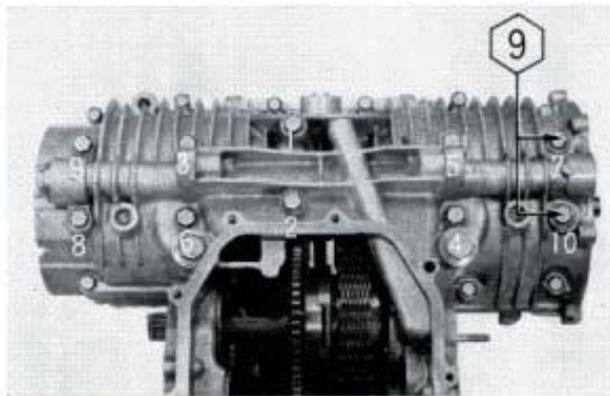

Fig. 151 8 mm mounting bolts
8. Unscrew ten 8 mm bolts and twelve 6 mm bolts from the lower crankcase. Loosen the 8 mm bolts in the reverse order shown in Fig. 151.
3. Measure the crankshaft journal wear. Cut a length of plasti gauge to the width of the bearing cap. Place the gauge on the bearing parallel to the crankshaft, assemble the crankshaft and torque down the crankcase in accordance with Fig. 151.
1. Remove the bearing, assemble and tighten the upper and lower crankcases. Refer to Fig. 151.
6. Place the engine upside down so as not to separate the parting surfaces by holding them by hands and install the ten 8 mm bolts. Torque the 8 mm bolts in the sequence shown in Fig. 151 to a torque of **2.3-2.5 kg-m. (16.63-18.08 lbs-ft)**.